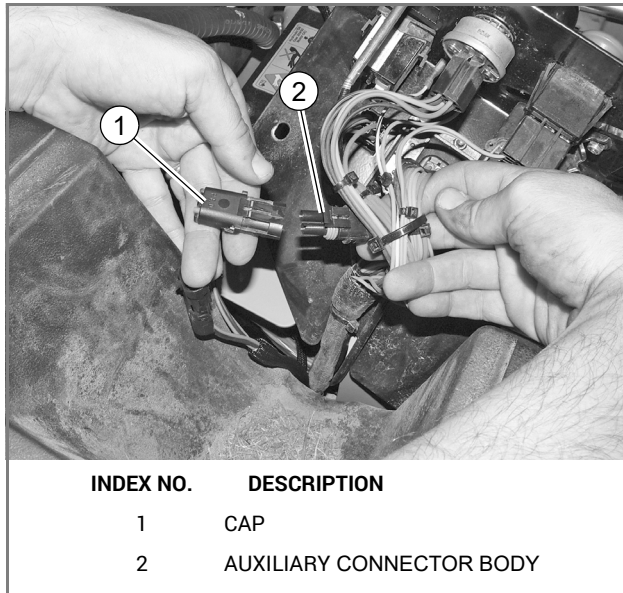

FIG. 16
29. Locate the auxiliary connector body underneath the instrument panel and remove the cap. FIG. 16